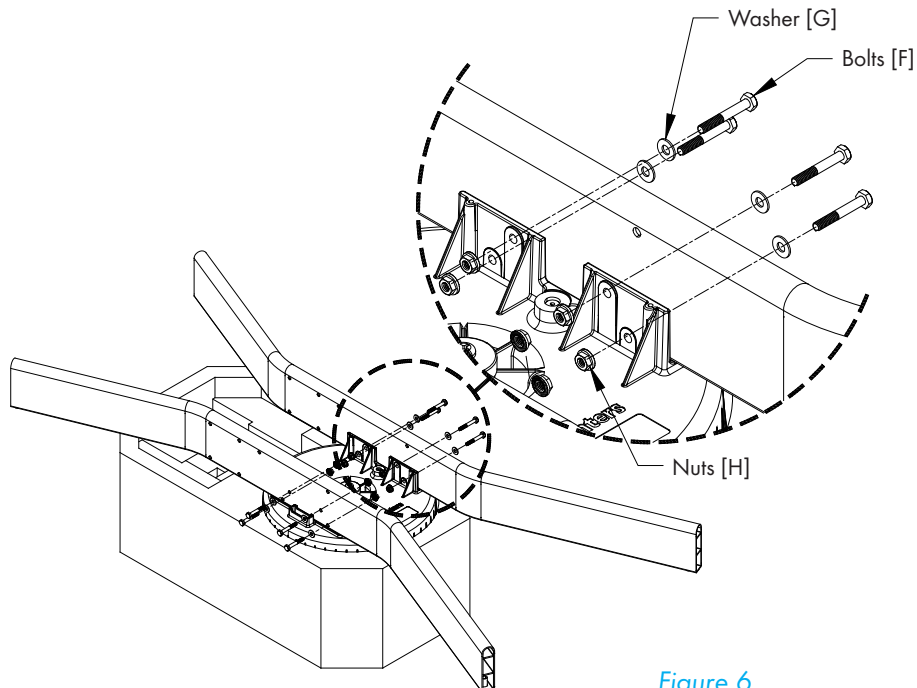

Figure 6
Fasten Struts to motor using (8) Bolts [F], Washers [G] and Nuts [H]. See Figure 6. **FINGER TIGHTEN ONLY AT THIS TIME.**